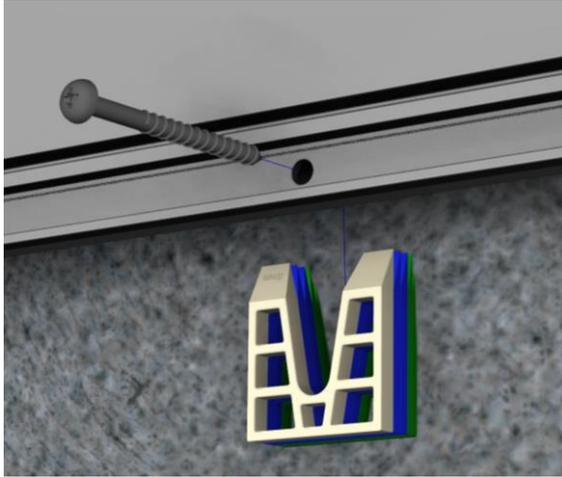

Figure 8 – Packing and fixing
5. Fix the vent to the kerb using the No10 x 2½" woodscrews and horseshoe packers supplied as per *Figure 8*. Fixings should be predrilled 3mm to a depth of 50mm. Use the packers to fill the space between the external kerb and inside of the rooflight. Care should be taken when tightening the fixings to ensure the frame does not distort.